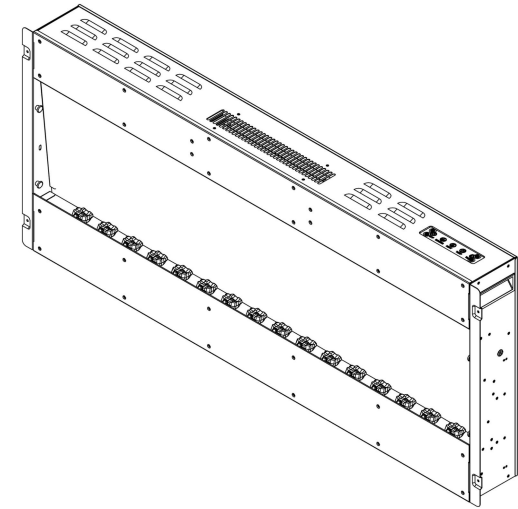

Fig.5
- Put the crystal or log to the white boarder , then gently bring the heater down against the wall, see fig.5